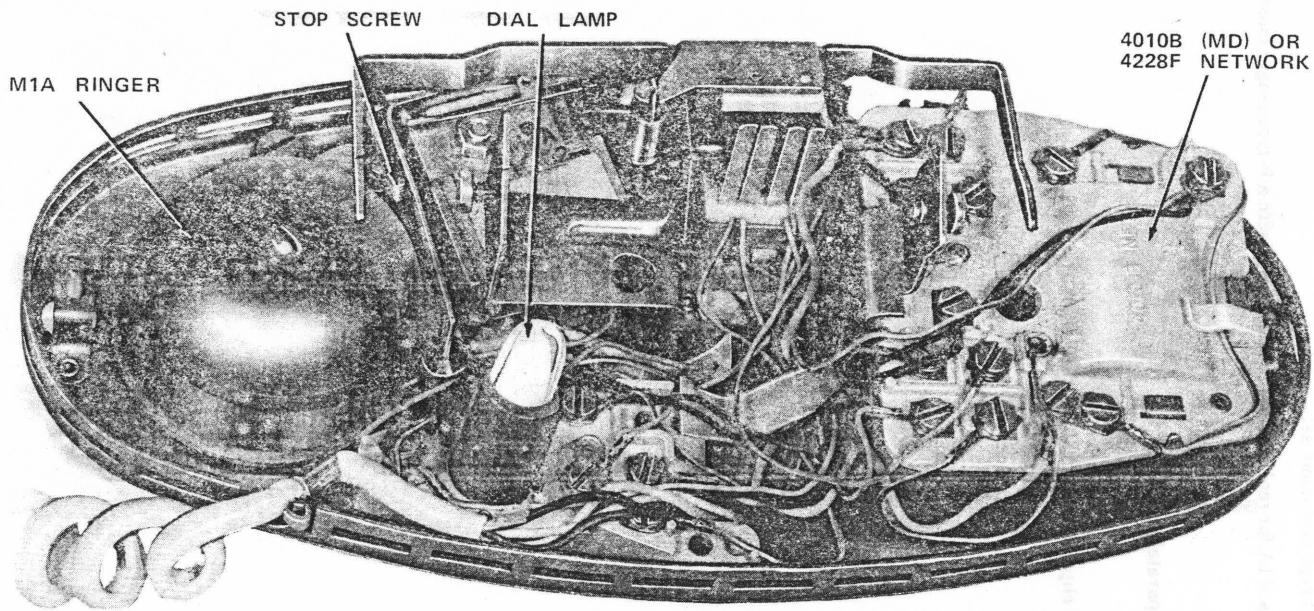

Fig. 3—702B (MD) Telephone Set, Dial and Housing Removed
2.04 The 702B (MD) telephone set (Fig. 3) is similar to the 701B (MD) which it replaces, except that an internal ringer (M1A or P-type) is provided.